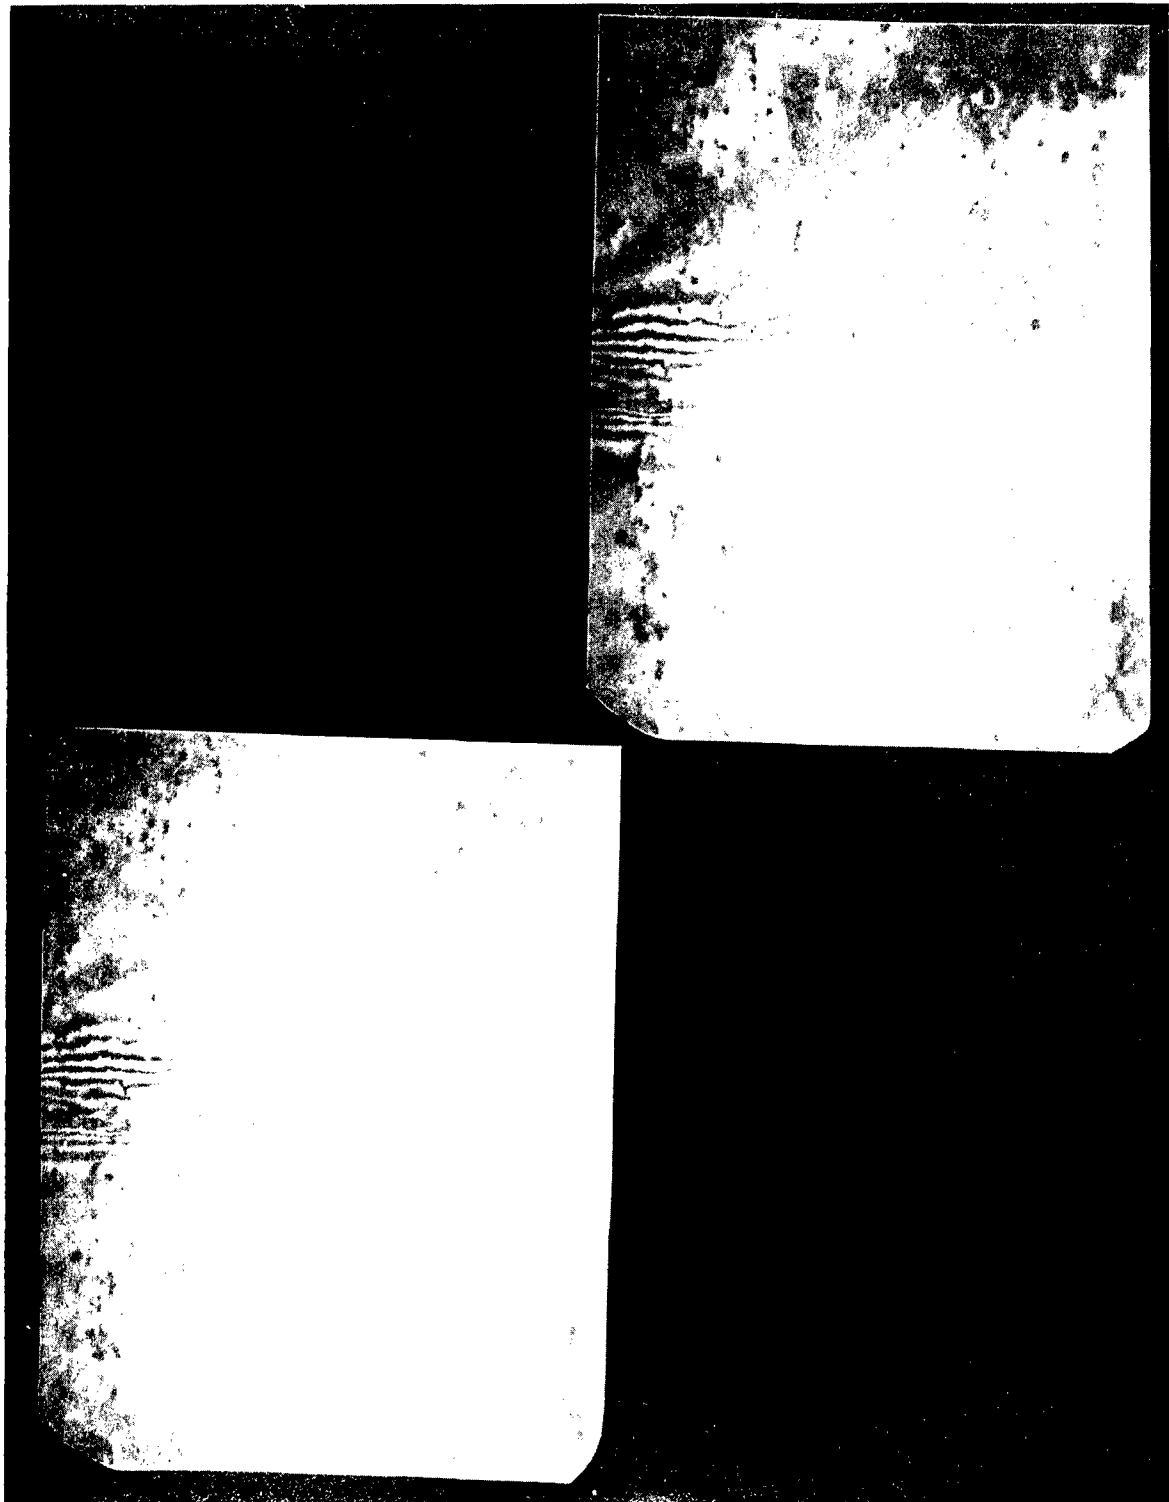

Figure 1. Interferometry Photograph of an Unloaded Crack in a 7075-T7351 Specimen
1. Constant Amplitude (Figures 1 through 90)